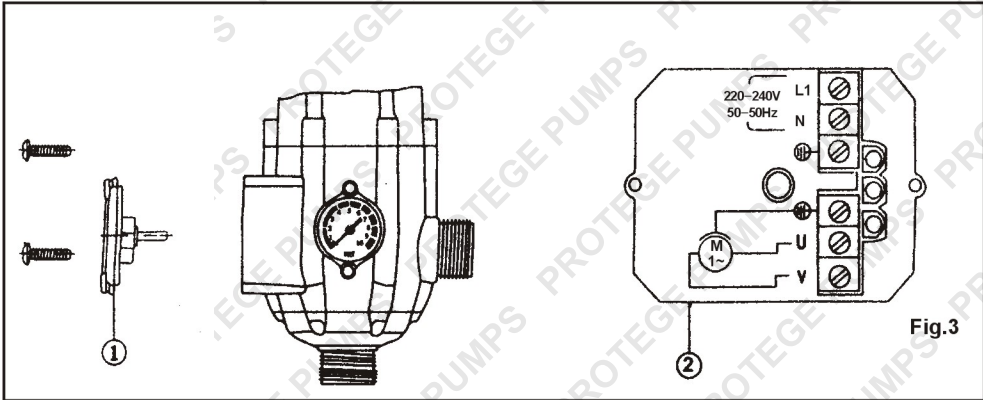

Fig.3
3 ELECTRIC CONNECTION (Fig.3)
- d). Incorrect electric connection on electronic board 2---check the connections according to Fig.3.